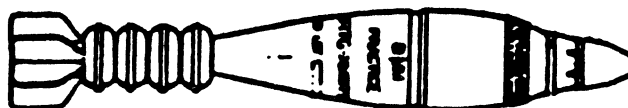

Fig 3-6. Training practice round.
e. The training practice round is colored blue with white markings (fig 3-6).